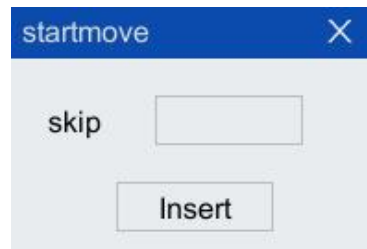

Figure 5-31 "Startmove" instruction configuration interface
Step1. Click "Insert Cmd> Process Control> startmove" option in the toolbar of the program editor to pop up "startmove" instruction interface, as shown in Figure 5-31.